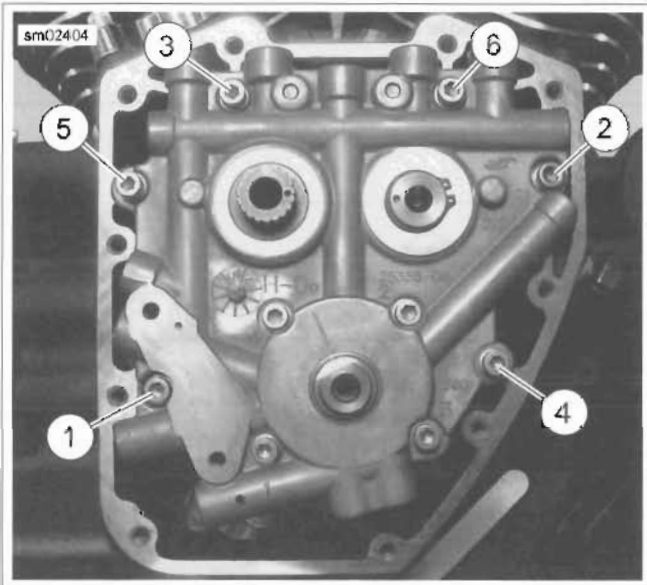

Figure 3-111. Cam Support Plate Torque Sequence
- See Figure 3-111. Install cam support plate screws. Tighten to 100-120 **in-lbs** (11.3-13.6 Nm) in the sequence shown.